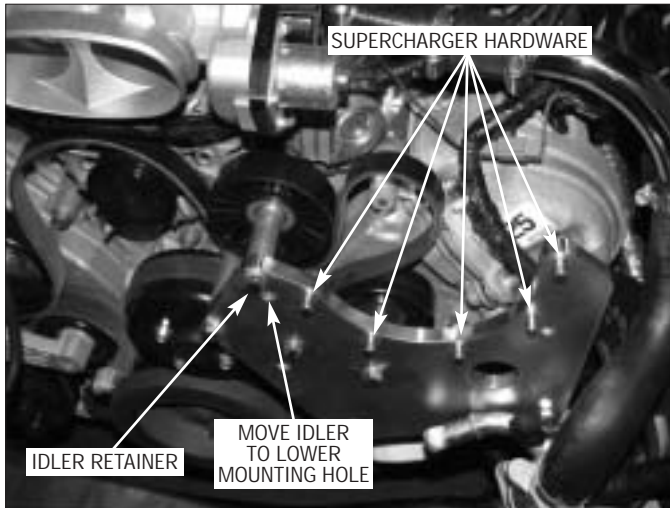

Fig. 2-b
- F.** Remove the 3.5" plastic idler, retainer and washer. Carefully reposition the idler and its two spacers to the lower mounting hole just below its current position. Reinstall the retainer previously removed and tighten. (See *Fig. 2-b.*)
- G.** Install the five 3/8-16 x 1.0" bolts and washers through the back side of the mounting plate. (See *Fig. 2-b.*)